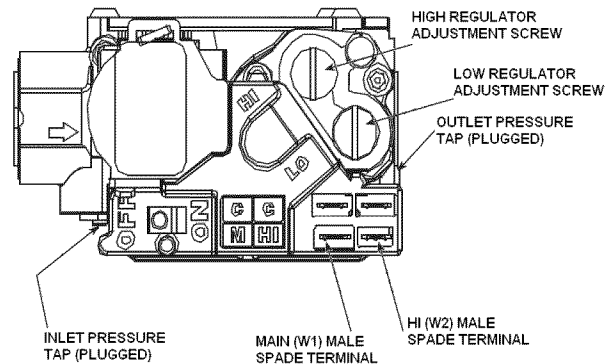

Fig. 37 - 48PD Gas Valve
6. Remove screw cap covering regulator adjustment screw. (See Fig. 37.)